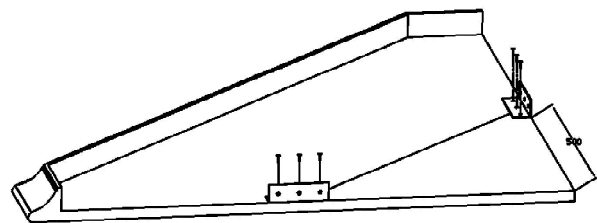

Figure 5
8. Turn up the back of mantel top, the special spring will lock the rear mantel top in position, then use screws to secure bracket as show in Figure 5 make sure the front and rear mantel top are in the same level.